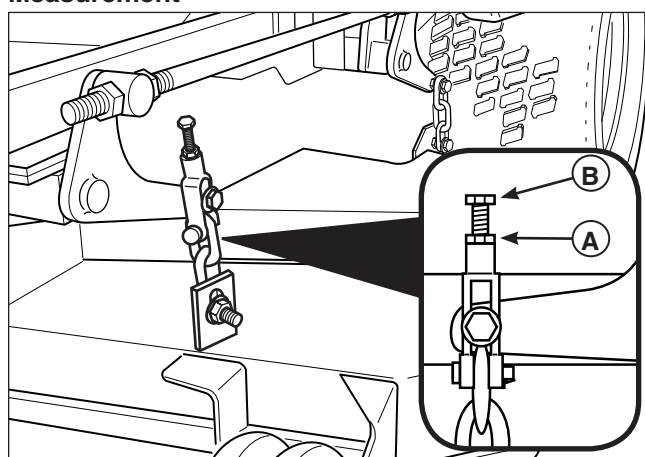

Figure 46. Fine Adjustment
1. Loosen the jam nut (A, Figure 46) and turn the fine adjustment bolt (B) to adjust the deck height until the front measurements equals 4" (10,2 cm). Turn the bolt **CLOCKWISE** to raise the deck; **COUNTERCLOCKWISE** to lower the deck.